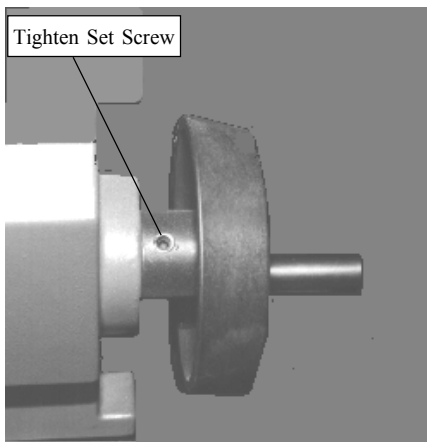

Figure 55
10. Periodically check the retaining screw on the carriage traverse hand wheel for looseness. If found to be loose, tighten securely. Spray the handles of hand wheels with lubricants so they turn freely and are easy to operate. **See Figure 55.**